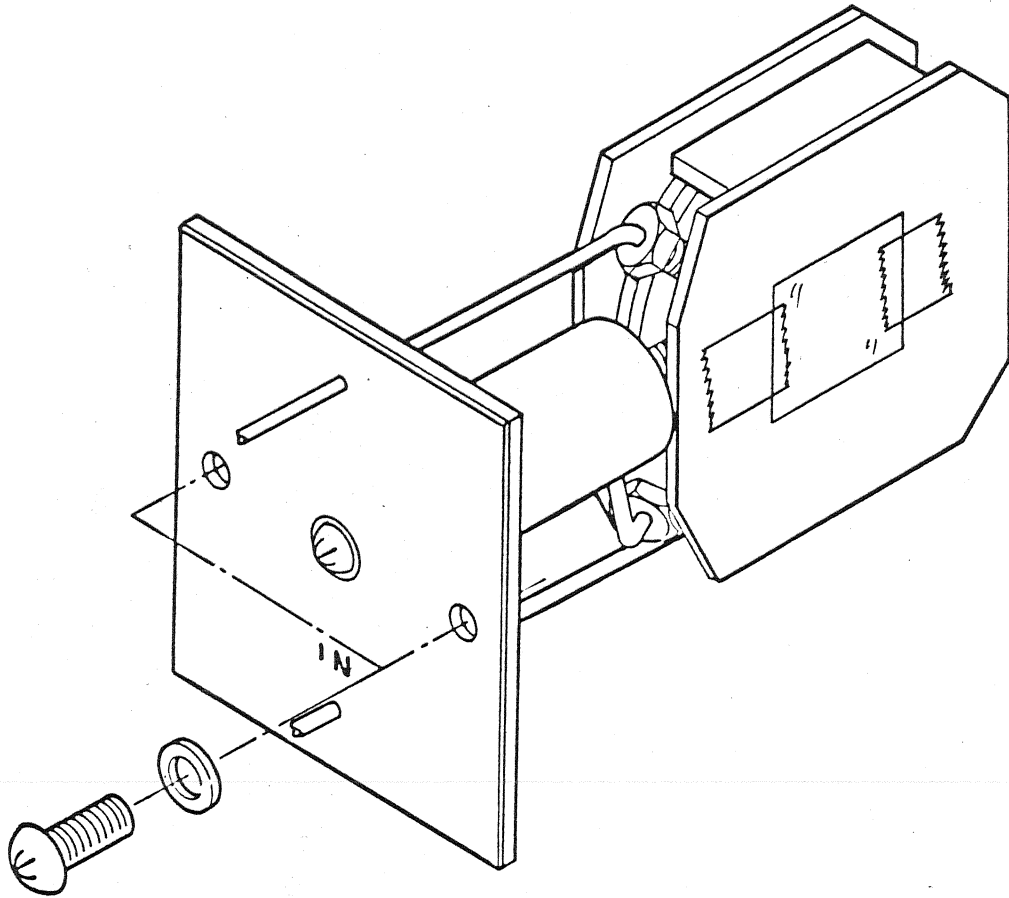

Fig. 9-2 Sticking a piece of Paper on Cell Hole
- 1) Draw the flow cell cassette out, and stick a piece of plane white paper with adhesive tape on the cell hole as shown in Fig. 9-2.